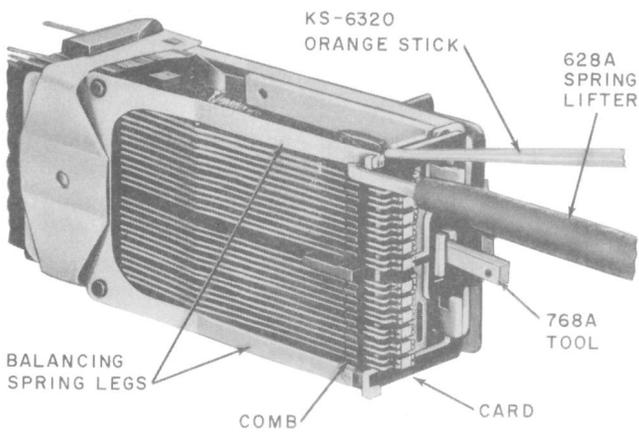

Fig. 12—Method of Removing Balancing Spring Legs from Cords—AL-Type Relay
- (3) To remove the top leg of the balancing spring from the card, hold the 628A balancing spring lifter in the left hand and insert the lifter next to the upper leg of the balancing spring with the end of the lifter just behind the comb. Roll the end of the lifter under the leg of the spring so that it rests in the groove of the lifter. Then draw the lifter forward to the position shown in Fig. 12 and 13. With the other hand, place the end of a KS-6320 orange stick on the top edge of the card to the right of the balancing spring leg as shown in Fig. 12 and 13. Lift the leg of the spring upward with the tool and at the same time press the card downward with the orange stick. When the spring clears the top of the card, move it toward the left so that it is free of the card. Withdraw the spring lifter. When removing the lower leg of the spring, the procedure is the same except that the opposite end of the spring lifter is rolled over the top edge of the leg and pushed downward while the orange stick is pressed upward against the bottom edge of the card.